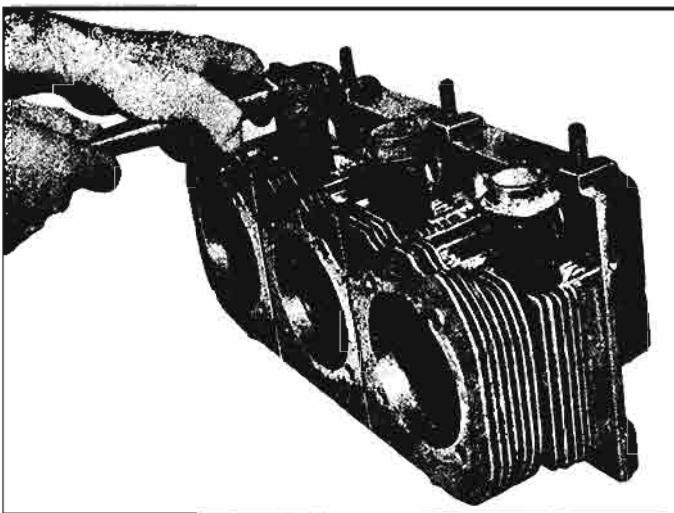

Fig. 6A-59—Removing Exhaust Manifold Sleeves
1. Remove exhaust manifold sleeves with a suitable pipe wrench by turning gradually (fig. 6A-59).